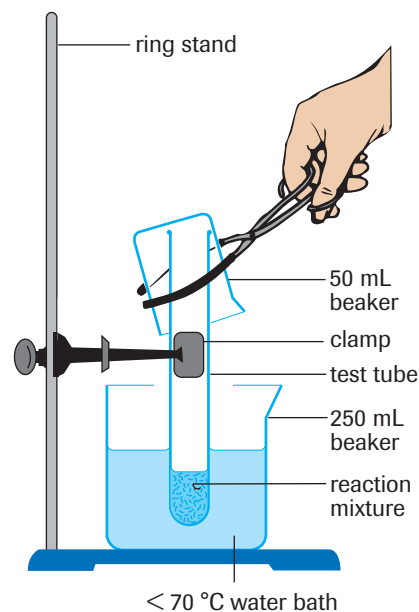

Figure 3
4. Clamp the test tube so that the reaction mixture is completely immersed in hot water (**Figure 3**).
5. As a safety precaution to block any eruption of the volatile mixture, invert a 50 mL beaker above the end of the test tube (**Figure 3**).